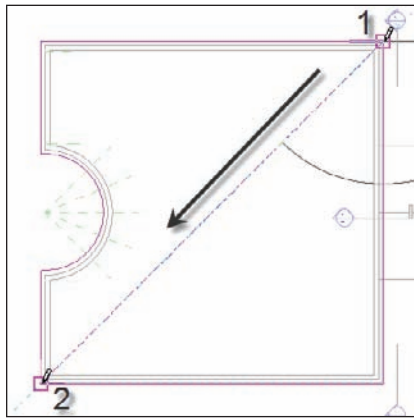

FIGURE 7.41 Adding the slope arrow
2. Pick the corner at the upper right and then the corner at the lower left, as shown in Figure 7.41.